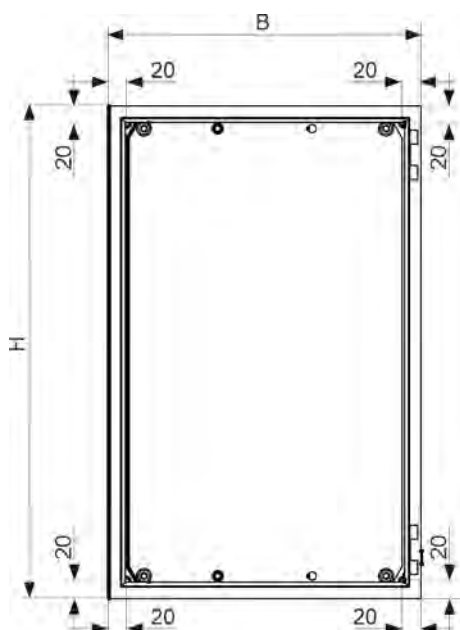

Fig. 6: Wall mounting: DryExx® control unit
When installing on a mounting frame, attach the welding bolts supplied with the equipment to the intended surface as specified in Fig. 6 .
1. ➤ Prepare the mounting equipment as specified in Fig. 6 .